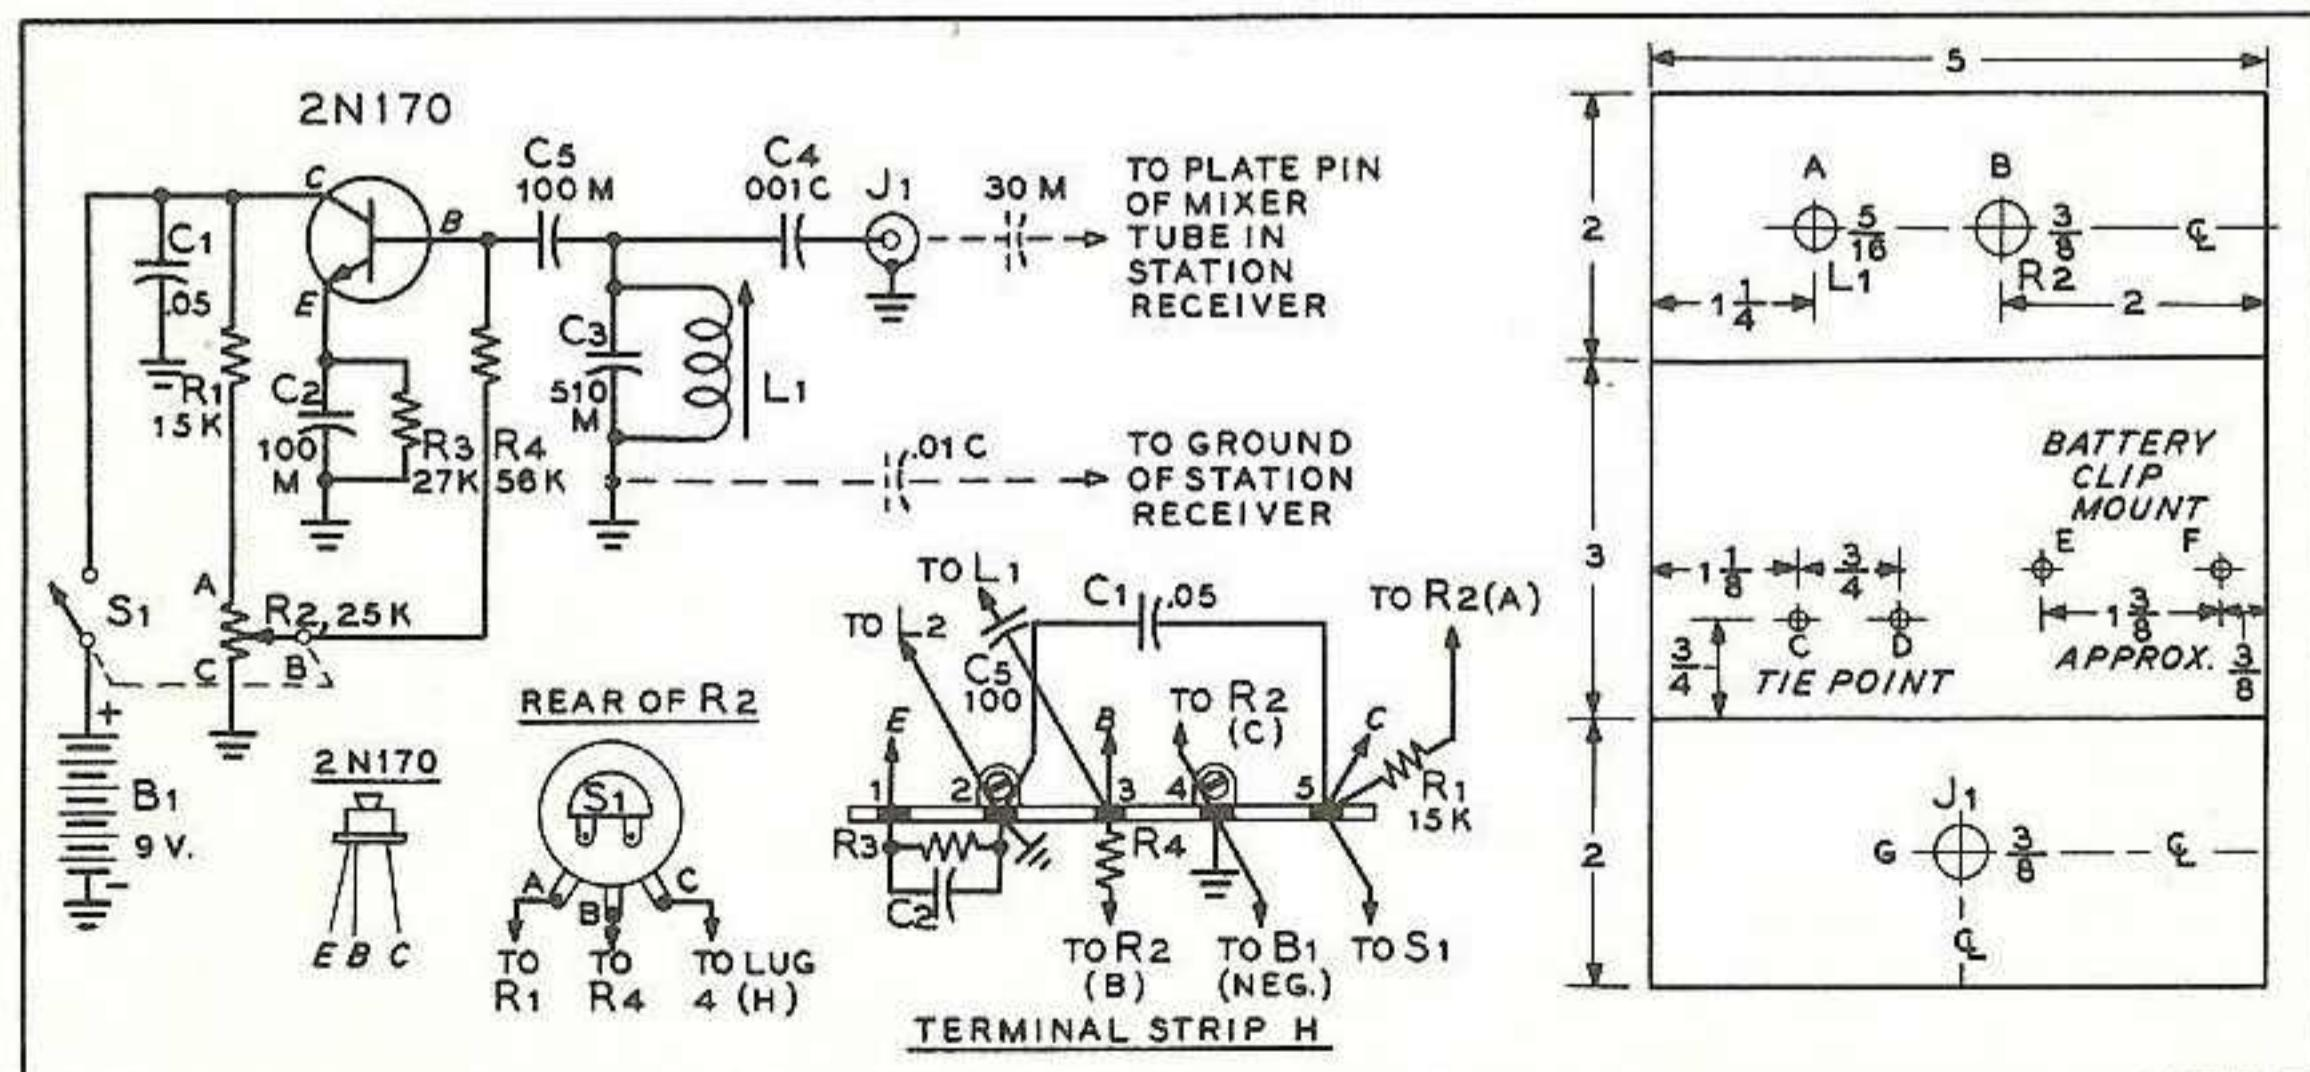

Fig. 24 Schematic of T-QM. Feedback is controlled by size of capacitor C5, which may be increased in value if greater selectivity of the T-QM is desired.
The circuit of the transistorized Q-multiplier is shown in Figure 24. A
- () Mount the 5 terminal phenolic tie-point strip (H) in holes C and D.
- () Connect the negative terminal of the battery to lug 4 (see Figure 24) of strip H (ground).
- () Connect terminal C of potentiometer R2 (Figure 24) to lug 4 of strip H.